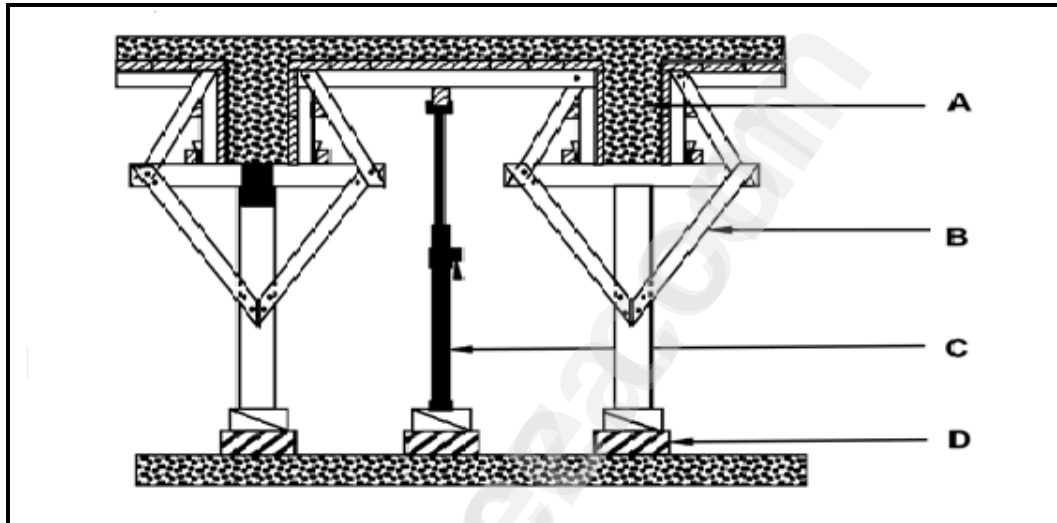

FIGURE 5.1
- 5.1 FIGURE 5.1 below shows a vertical section through formwork for two concrete beams.